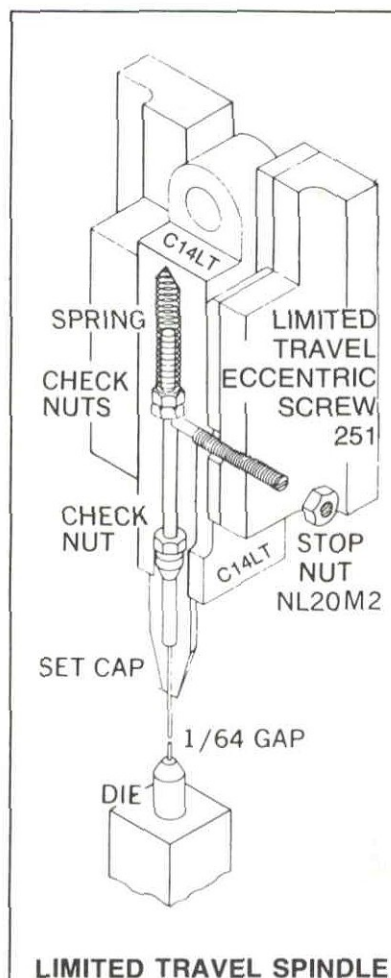

Fig. 4
10. Screw in Eccentric Adjusting Screw 251 just far enough so that the end of Screw supports Spindle Assembly (Fig. 4). Align Spindle Tip with Set Die Pilot and check to see that there is vertical clearance between the end of the Spindle Tip and the end of the Pilot. If there is interference rotate the 251 Eccentric Adjusting Screw to see if clearance can be obtained. A 1/64" gap is desirable.
**NOTE:** When converting a model S-83LT series machine from an Eyelet with barrel diameter .090" or less to a larger diameter Eyelet the Limited Travel Spindle is not required. The 251 Eccentric Screw (See Fig. 4) should be removed from the lower right side of the Ram Housing (C15). The Limited Travel Spindle Clamping Screw Assembly (A5100+) and Limited Travel Spindle Spring (A5130) are replaced with the A9884-1 Spindle Spring and A9884-2 Spindle Spring Guide.